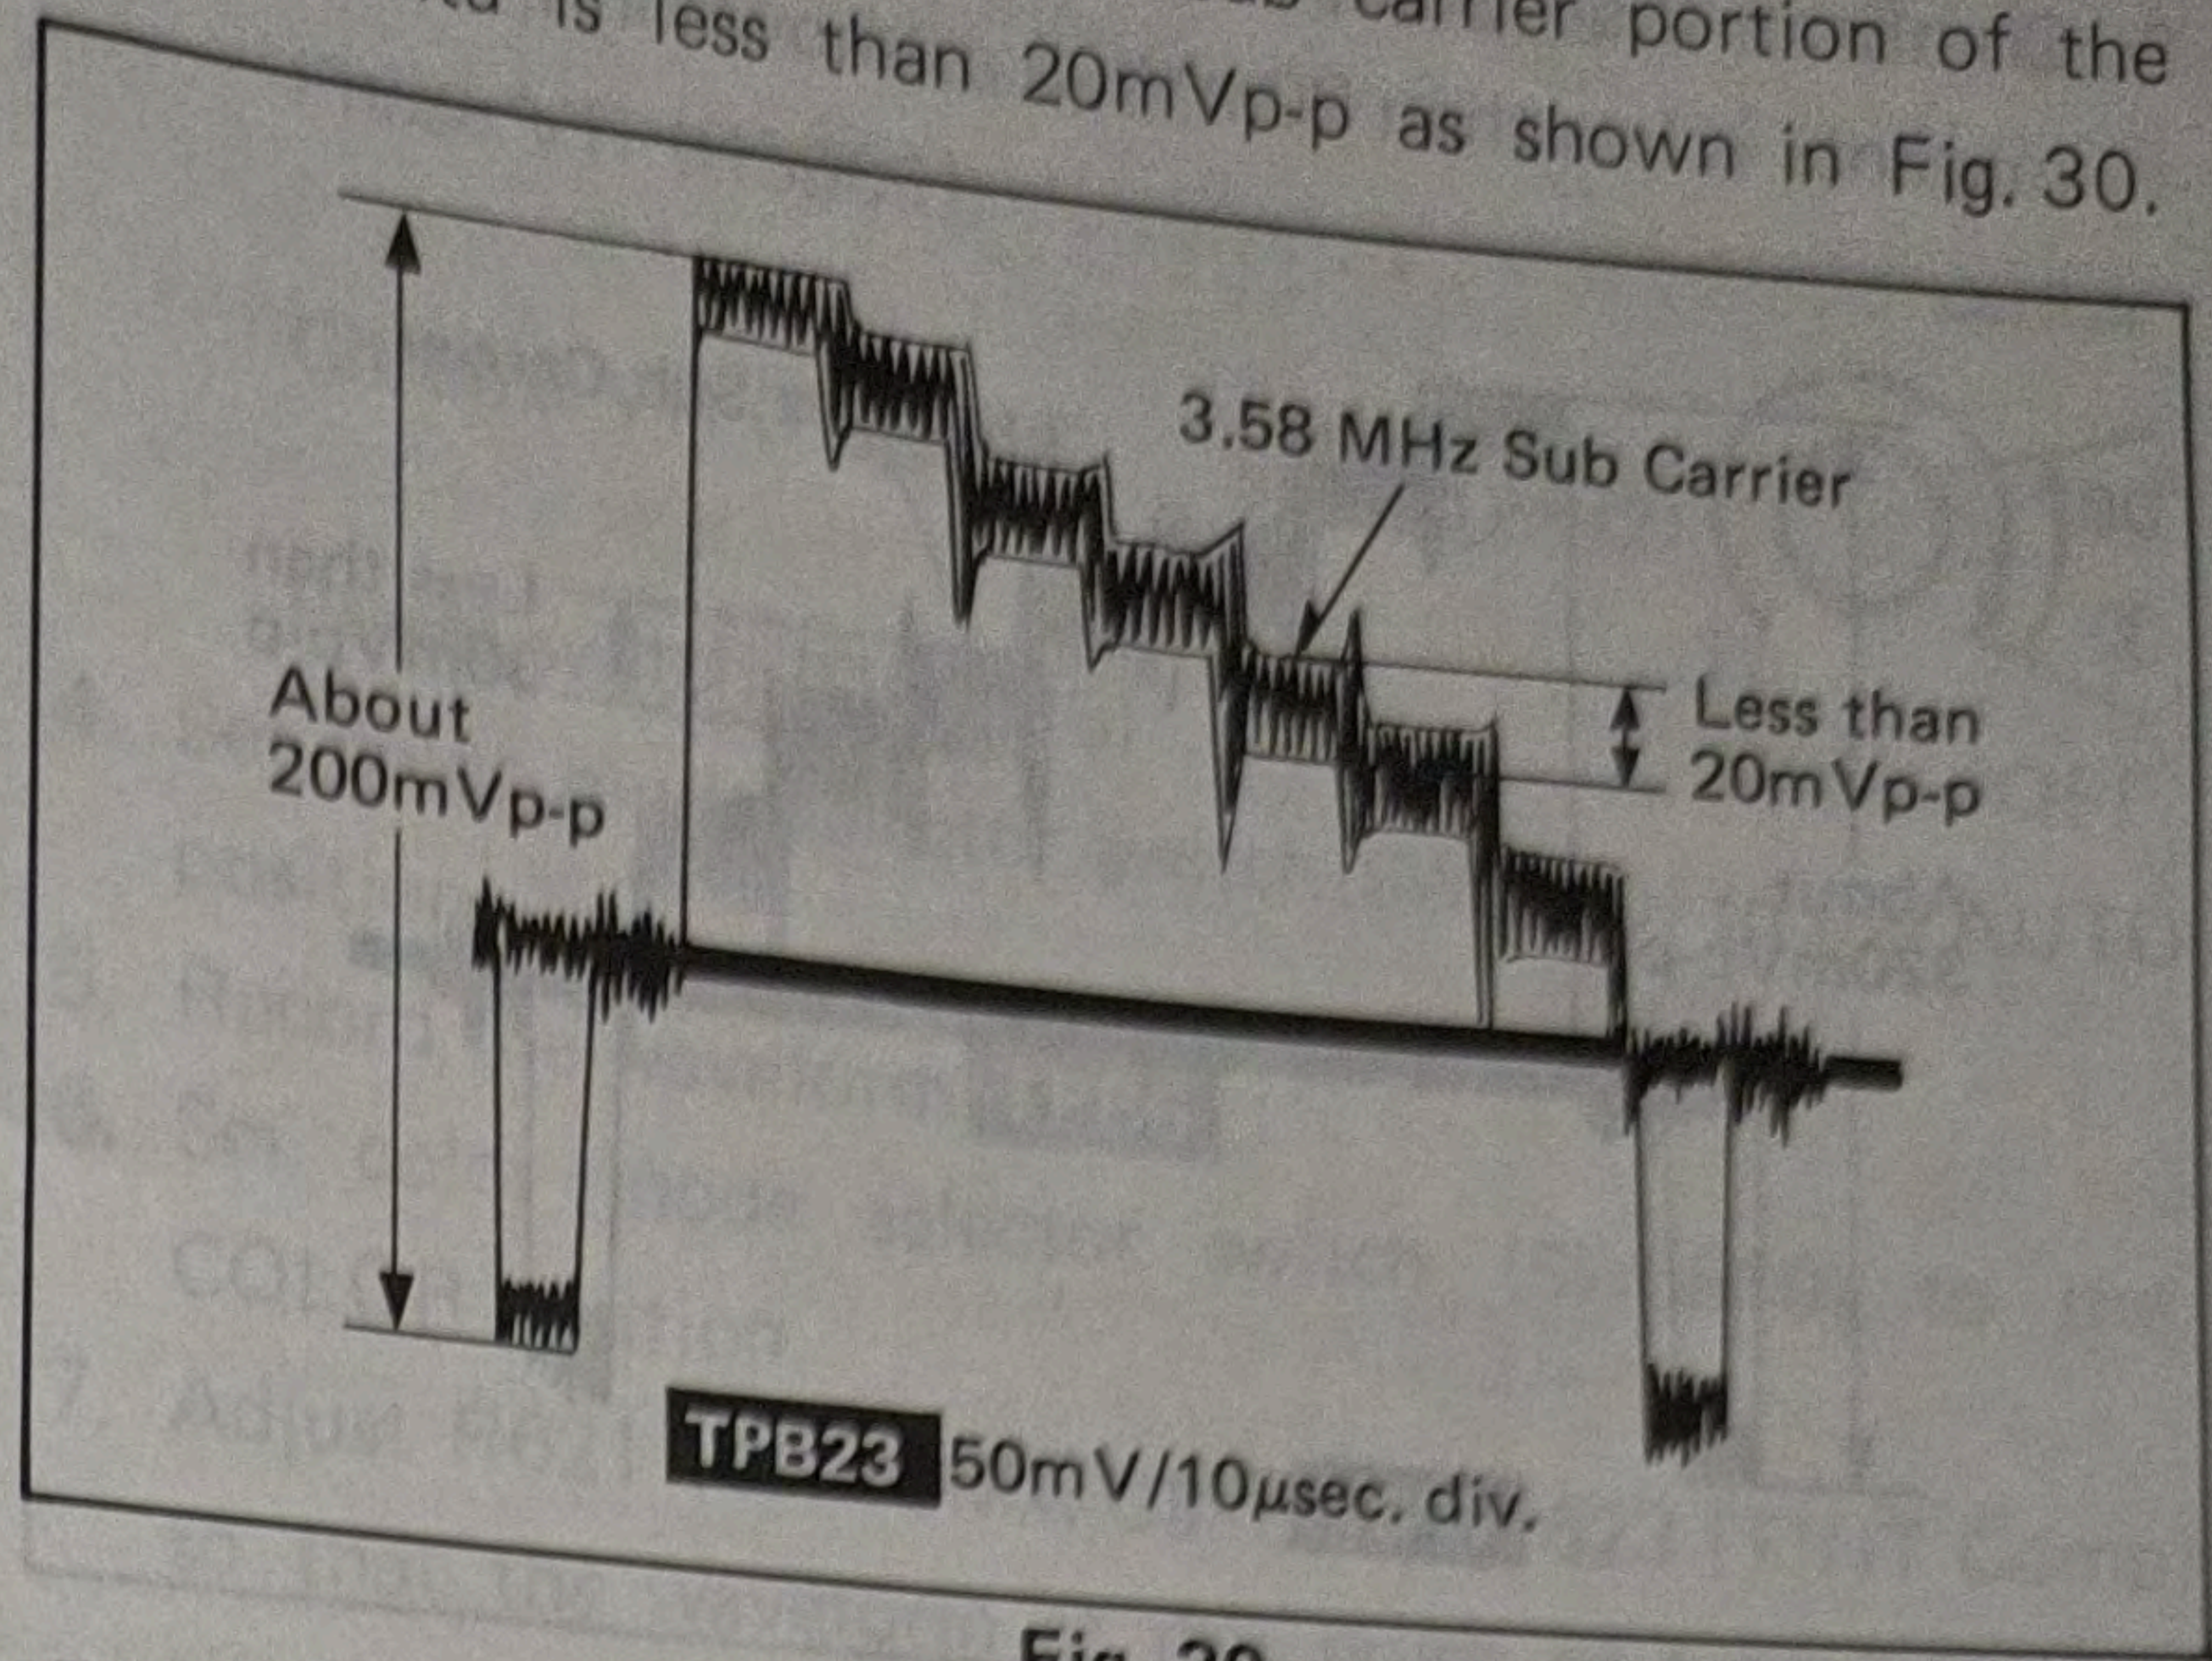

Fig. 30
5. Adjust L5002 to set 3.58 MHz sub carrier at the minimum amplitude as shown in Fig. 30.
6. Confirm that 3.58 MHz sub carrier portion of the magenta is less than 20mVp-p as shown in Fig. 30.